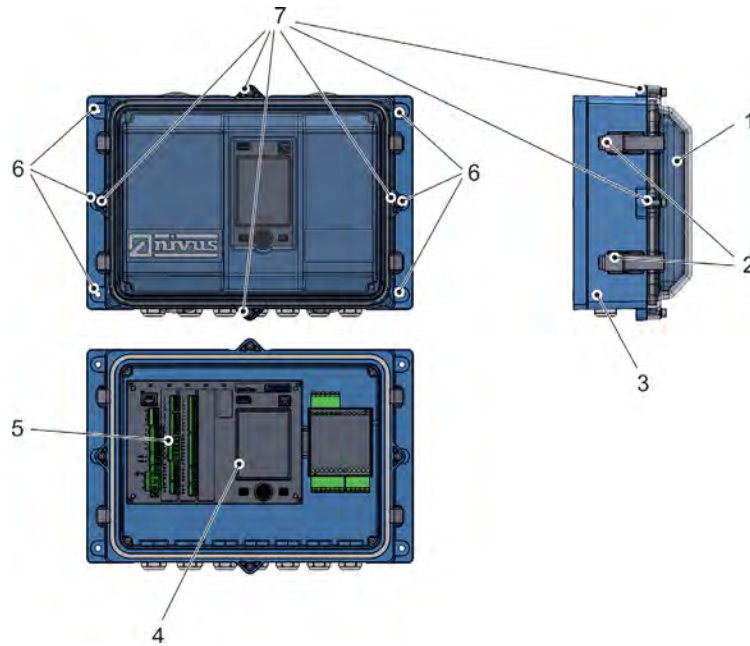

Fig. 14-2 Fastening the field enclosure
1. Fasten the field enclosure (Fig. 14-2 no. 3) on both lateral brackets by using the six previously selected screws through the fastening holes (6.5 mm diameter, Fig. 14-2 no. 6).
2. Remove the transport protection film from the clear view cover (Fig. 14-2 no. 1) if available.
1. To remove the clear view cover (Fig. 14-2 no. 1) from
Open the four lateral release clamps (Fig. 14-2 no. 2) and remove the enclosure cover.
Remove the four cylinder head screws M4x25 (Fig. 14-2 no. 7) including the washers, open the four lateral release clamps (Fig. 14-2 no. 2) and remove the enclosure cover.
2. To remove the blue inside cover loosen the four round head screws 3.5x25 in the corners and remove the cover. Now the transmitter including the display (Fig. 14-2 no. 4) and the terminal clamps (Fig. 14-2 no. 5) as well as the iXT are freely accessible.